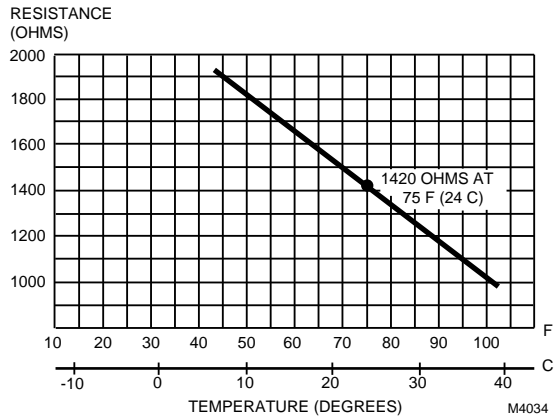

Fig. 2. T7174 Remote Sensor Resistance change with change in temperature.
Resistance decreases as temperature increases (Fig. 2). 1420 ohms nominal at 75°F (24°C); resistance changes 15 ohms for each 1°F (0.6°C) temperature change.
1. Allow the sensor to stabilize to ambient conditions before taking a resistance measurement. The sensor resistance measurement should be in accordance with the device temperature curve (see Fig. 2).